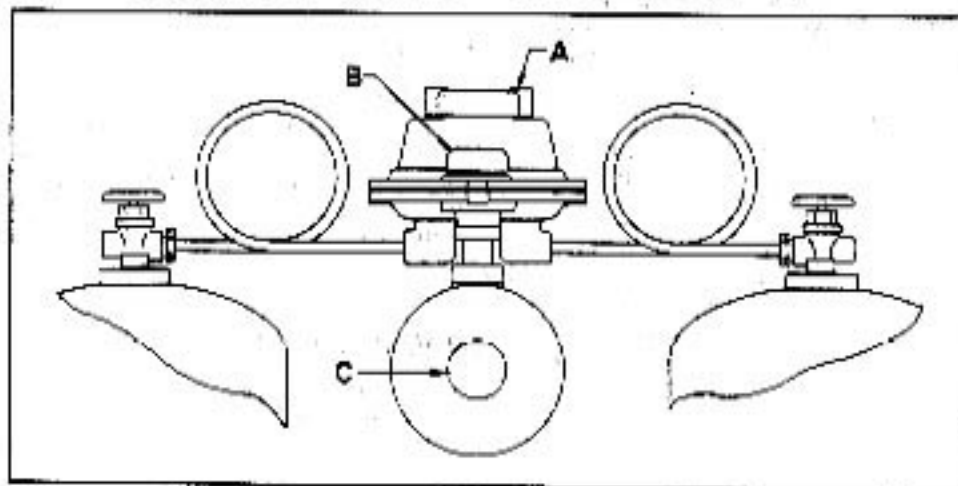

Figure 2—Typical Installation
4. Inform the user that the supply cylinder is not completely empty until the red warning flag is fully visible in the indicator window (B), Figure 2.
Place one of the two cylinders in supply by rotating the changeover knob (A), see Figure 2, either way as far as it will go. The arrow denotes the supply service side. Open both cylinder valves slowly.
Type R110 is factory set and is nonadjustable. If it becomes necessary to increase the outlet pressure of the second stage regulator, remove the closing cap (C), see Figure 2, and turn the adjusting screw clockwise. Turn the adjusting screw counterclockwise to decrease the outlet pressure. Always replace the closing cap after adjustment is made.